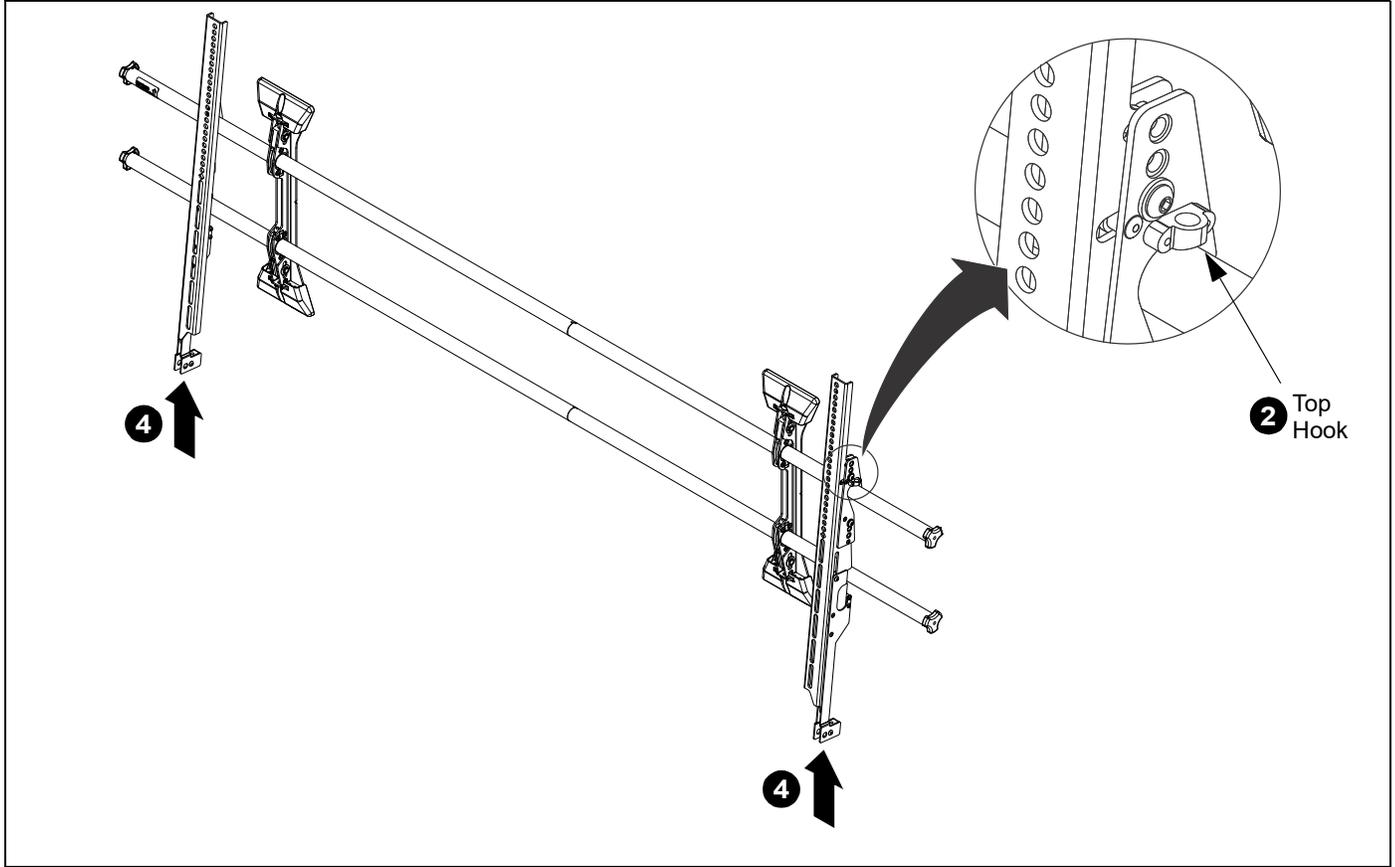

Figure 15
2. Hang top hook of interface brackets (W and X) onto the top rail of the mount. (See Figure 15)